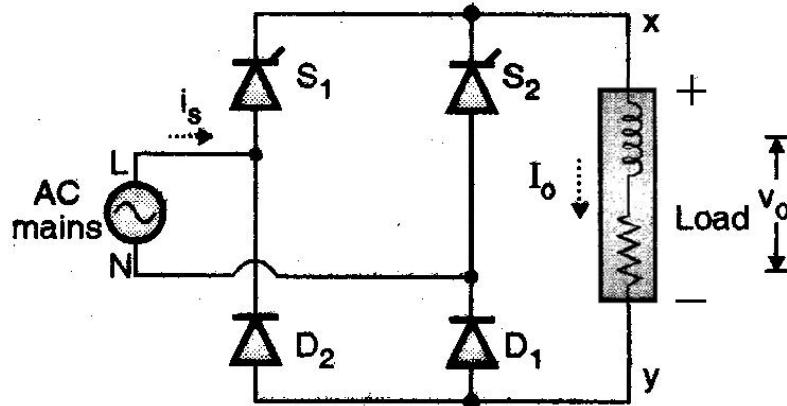

Fig. 2.19 (a) : Circuit diagram
In order to discuss the operation with inductive load, the symmetrical configuration of Fig. 2.19 (a) is used.
The instantaneous load voltage v_o , instantaneous load current i_o and the instantaneous supply current are as shown in the Fig. 2.19(a).
- The load current $i_o = I_o$, is assumed to be continuous and ripplefree. Different voltage and current waveforms are as shown in Fig. 2.19 (g).